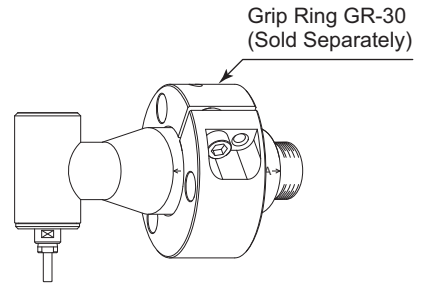

Fig. 6
- \* When installing a Spindle, use a " Grip Ring GR - 30 (sold separately) " (Fig. 6) recommended. If the Grip Ring GR - 30 (sold separately) cannot be used due to the restriction of dimension and space, install as shown in ② below.